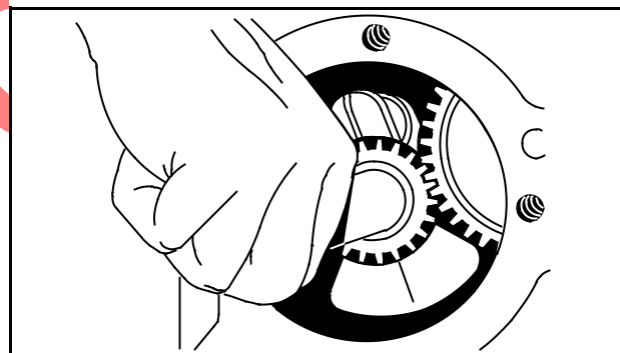

Fig. 2
3. Rotate crankshaft to approximate position shown in Fig. 2.
3. Rotate crankshaft to position shown, Fig. 2.
NOTE: On some models, it may be necessary to position crankshaft approximately 180° from position shown in Fig. 2.